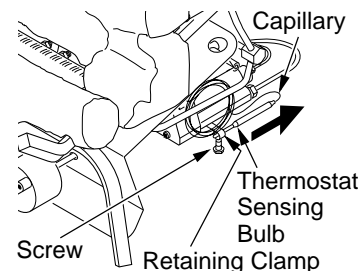

Figure 43 - Removing Thermostat Sensing Bulb
2. With 5/16" hex driver or socket, loosen the thermostat screw. Carefully slide the thermostat sensing bulb out of the retaining clamp (see Figure 43).